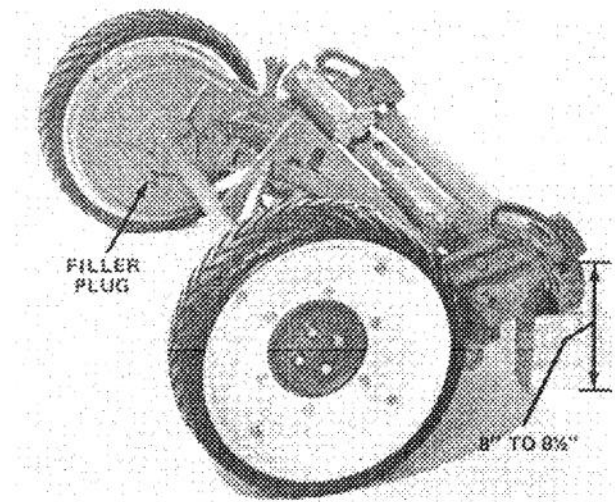

Figure 3
2. Raise and block back of mower until there is 8 to 8-1/2 inches (0.203 to 0.216 m) between bottom of gear case extending behind roller bracket and level surface (Fig. 3).
3. Remove filler plug from inside of each gear case (Fig. 3). Check oil level in gear case: it should be level with bottom of filler hole. If oil is level with bottom of hole, reinstall filler plug.